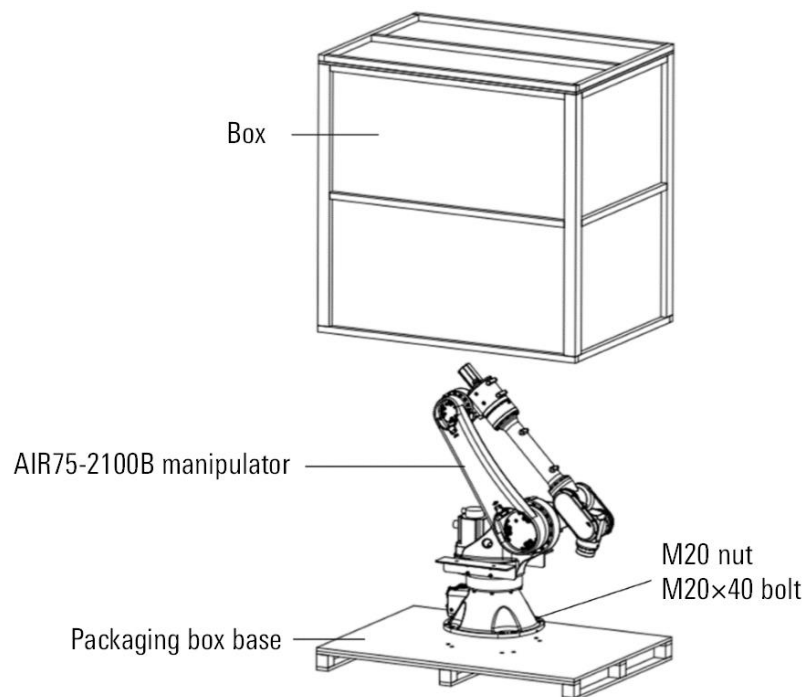

Figure 3-2 Composition of the AIR50-2230A manipulator packaging box
As shown in Figure 3-2 the packaging box of the AIR50-2230A manipulator is composed of a box body and a bottom bracket.
- Step2. According to the position shown in Figure 3-2 above, move the AIR50-2230A to the center of the base, and use an Allen wrench to tighten the M20 screws, washers, and M20 nuts connecting the AIR50-2230A, the base, and the end support, that is, the manipulator can be fixed to the bottom bracket.
Step3. Place the box on the bottom bracket according to the position shown in Figure 3-2 above. Use a wrench to tighten the screws, washers and nuts of the box and bottom bracket to fix the box and bottom bracket.